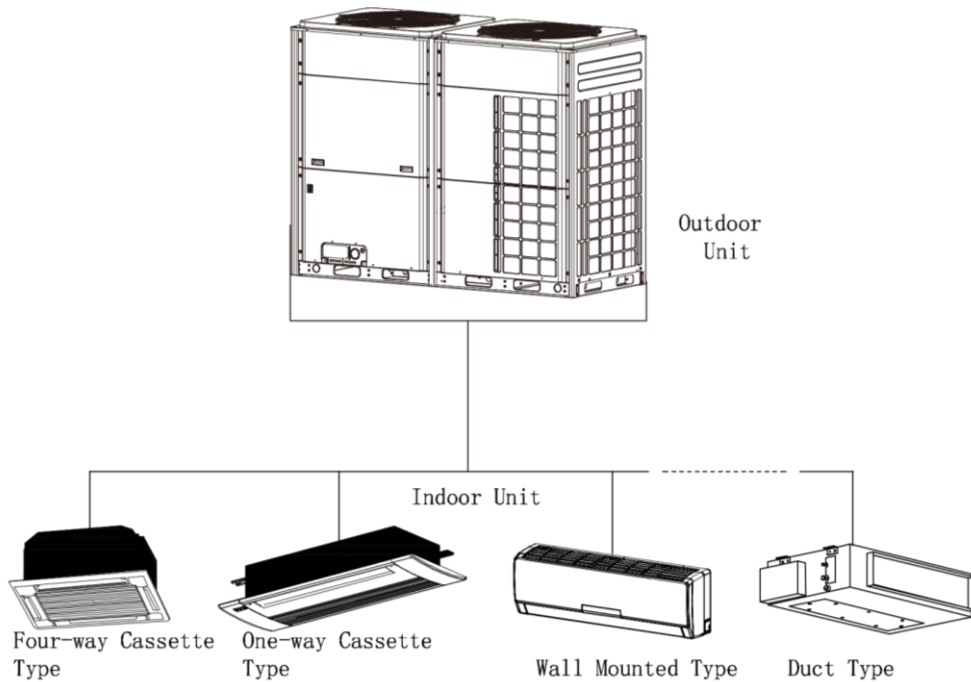

Fig.2
(3) Fig.2 is the combination view of the ODU of Modular DC Inverter Multi VRF System and the IDU of Multi VRF System. IDU can be cassette type, one-way cassette type, wall-mounted type, duct type, etc. When any one IDU receives operation signal, ODU will start to work according to the capacity; when all IDUs stop, ODU will also stop.